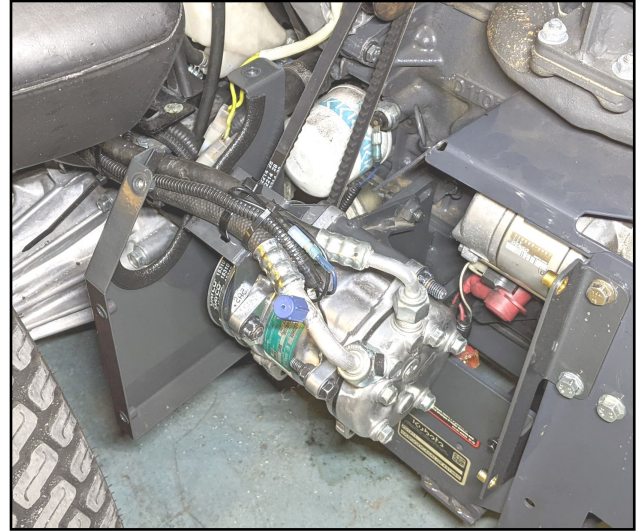

Fig. 9.1 (Install Front Shroud Panel)
- 9.1 See fig. 9.1. Assemble the front shroud panel to the front side of the bracket installed in step 1.10. Do not fully tighten fasteners at this time.